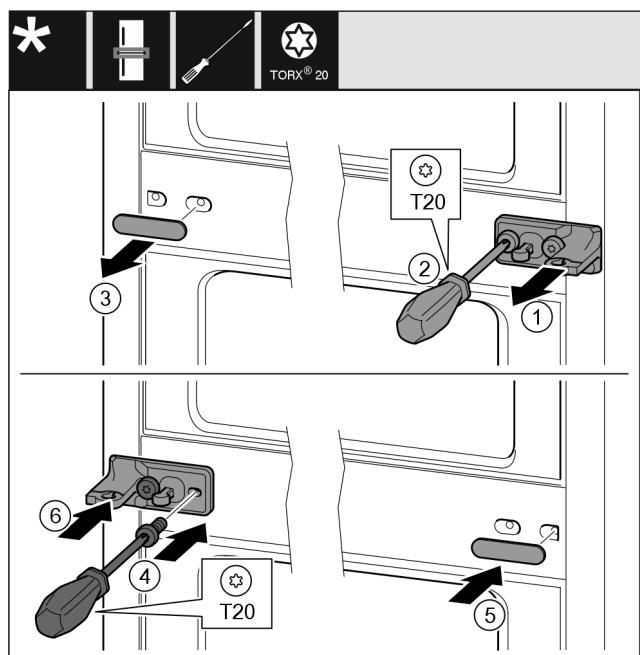

Fig. 14
- ▶ Pull off the washer Fig. 14 (1).
- ▶ Turn out the screws Fig. 14 (2) with the screw driver.
- ▶ Carefully pull off the cover Fig. 14 (3).
- ▶ Tightly screw on the swap bearing block with film Fig. 14 (4) on the other side turned by 180°.
- ▶ Attach the cover Fig. 14 (5) on the other side turned by 180°.
- ▶ Press on the washer Fig. 14 (6) from the front.